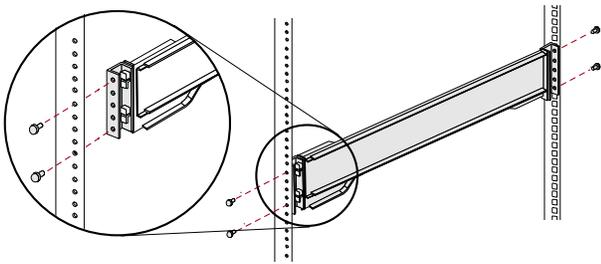

Figure 8. Using the Early Round-Hole Adaptors
2. Facing the rack, position the **left rail** in the rack, aligning the adaptor holes with the **front** left rack holes being used (Figure 8 on page 3).